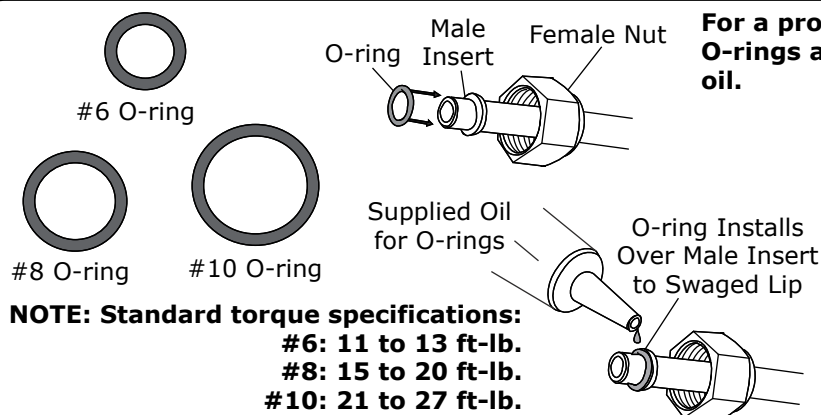
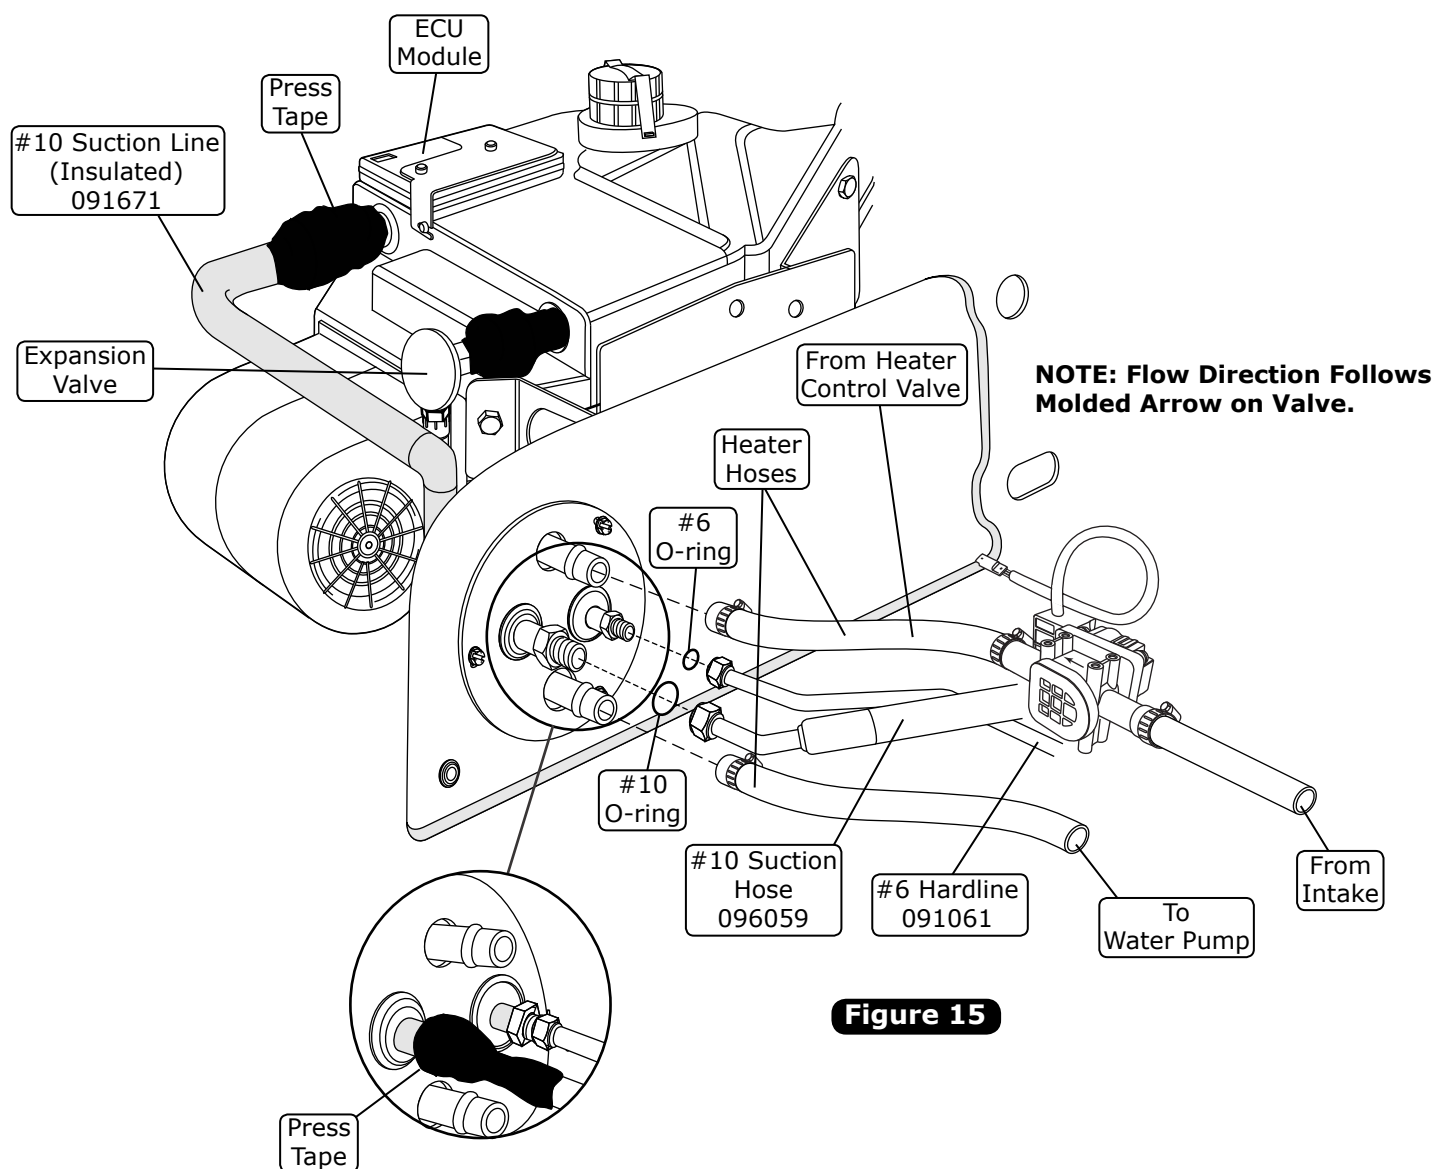
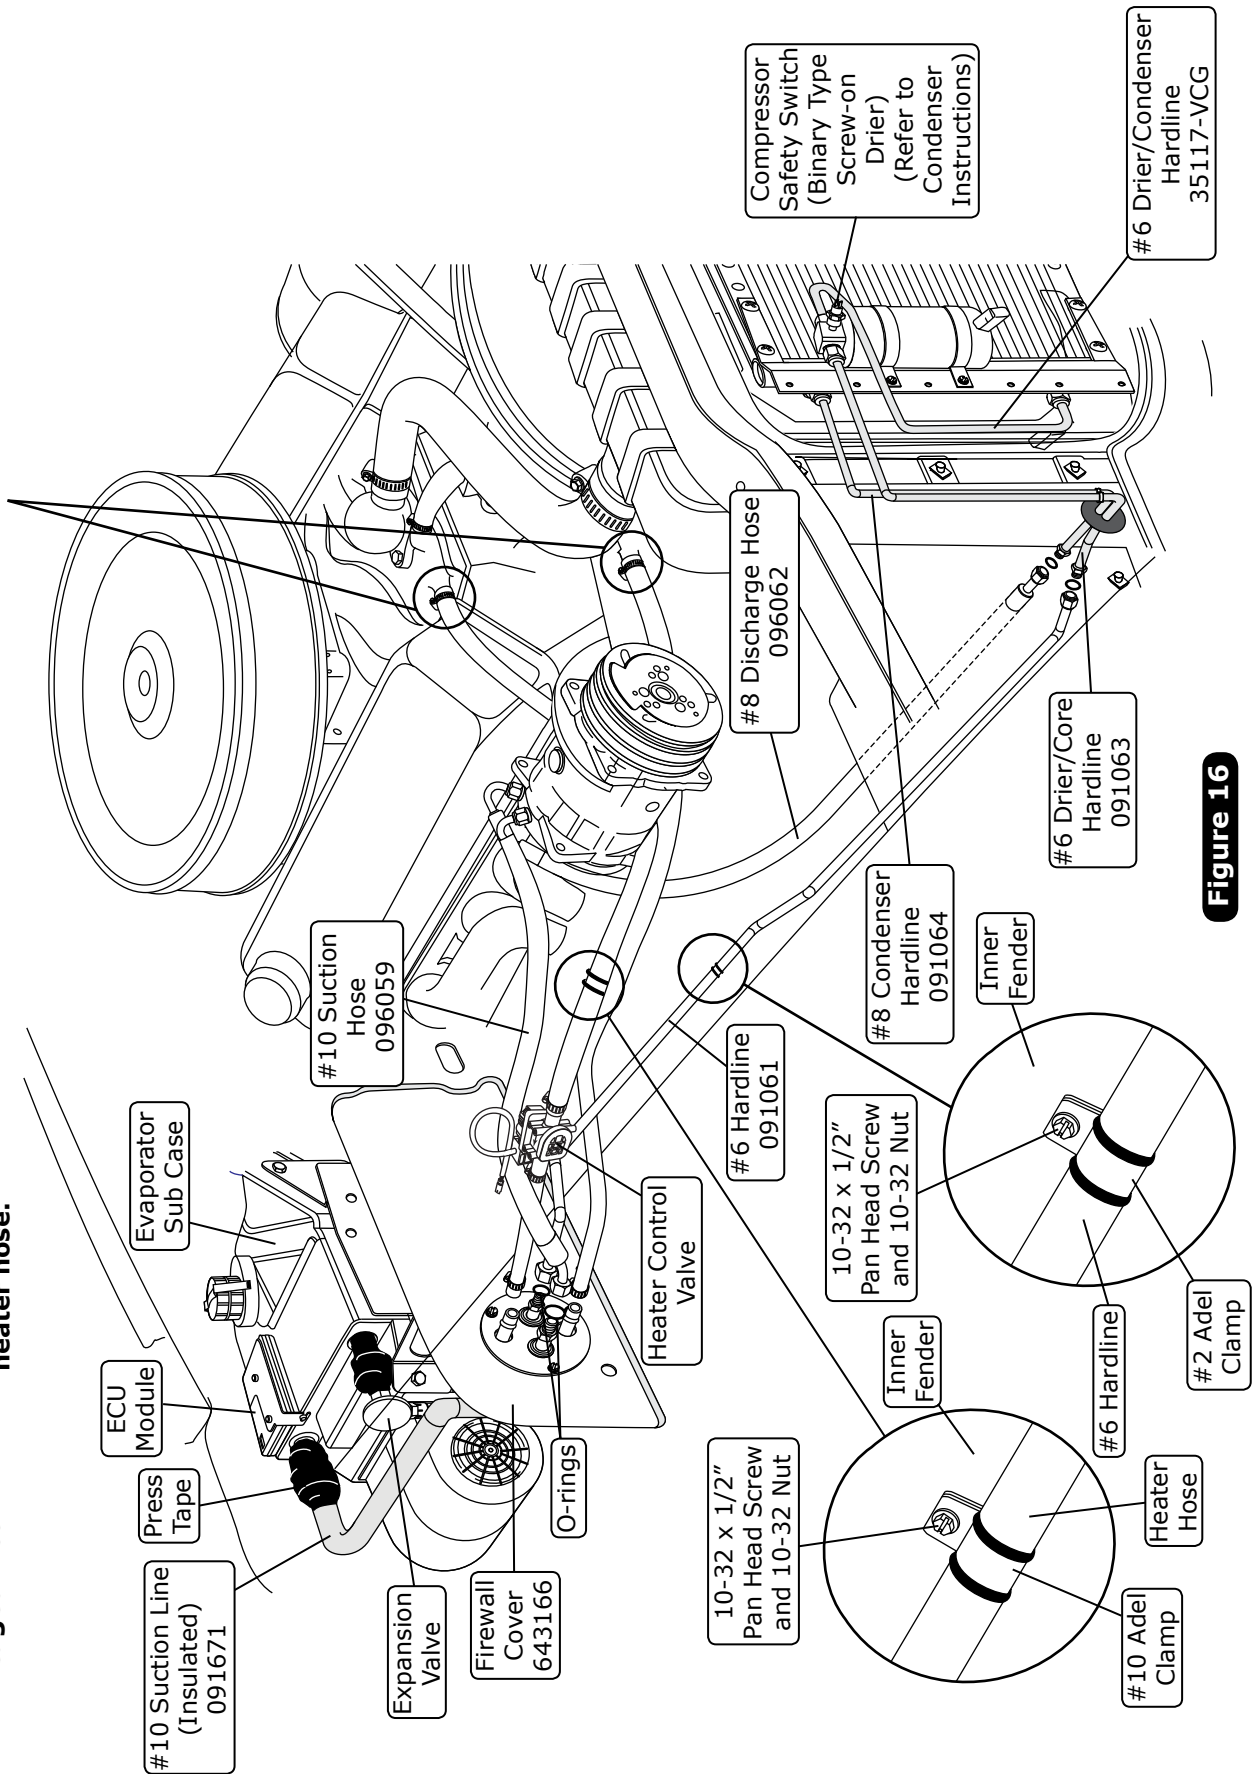

Figure 14
Figure 15
Figure 16
1. On a workbench, install (2) heater lines with properly lubricated O-rings (See Figure 14, Page 14, and Figure 20, Page 19).
4. Install (2) A/C hardlines with properly lubricated O-rings (See Figure 14, Page 14, and Figure 20, Page 19).
1. Locate the #8 compressor A/C hose. Lubricate (2) #8 O-rings (See Figure 14, above) and connect the 135° female fitting with 134a service port to the #8 discharge port on the compressor. Then route the straight female fitting to the #8 condenser hardline coming through the core support (See Figure 16, Page 16). Tighten each fitting connection as shown in Figure 14, above.
2. Locate the #10 compressor A/C hose. Lubricate (2) #10 O-rings (See Figure 14, above) and connect the #10 135° female fitting with 134a service port to the #10 suction port on the compressor. Then route the 45° female fitting to the #10 evaporator hardline coming through the firewall (See Figure 16, Page 16). Tighten each fitting connection as shown in Figure 14, above. **NOTE: Wrap the #10 fitting connections with press tape (See Figure 15, Page 15).**
3. Locate the #6 evaporator/core hardline. Lubricate (2) #6 O-rings (See Figure 14, above) and connect the hardline to the #6 hardline coming through the core support from the drier. Then attach the other end of the hardline with lubricated O-ring to the #6 evaporator hardline coming through firewall (See Figure 16, Page 16). Tighten each fitting connection as shown in Figure 14, above.
4. Use #2 and #10 Adel clamps to secure the #6 evaporator/core support hardline and the 5/8" heater hose to the inner fender as shown in Figure 16, Page 16. Secure the Adel clamps to the inner fender using (2) 10-32 x 1/2" pan head screws and 10-32 nuts.
1. Route a piece of heater hose from the water pump to the lower heater core fitting (See Figure 15, below, & Figure 16, Page 16). Secure using hose clamps.
2. Route a piece of heater hose from the intake to the heater control valve, and from the heater control valve to the upper heater core fitting (See Figure 15, below, & Figure 16, Page 16). **NOTE: Install the heater control valve in line with the intake manifold (pressure side) heater hose, and secure using hose clamps. Also note proper flow direction.**